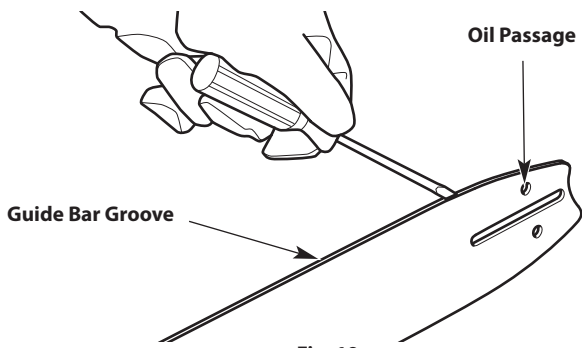
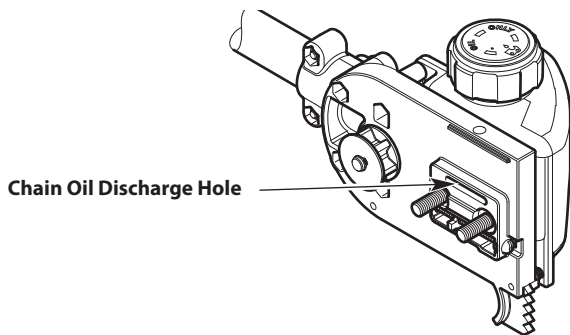

Fig. 19
Fig. 20
2. Clean the guide bar groove and oil passages whenever the saw chain is removed, when the unit has been used heavily or when the saw chain appears dirty. Use a screwdriver, putty knife, wire brush or similar instrument to remove debris from the guide bar groove (Fig. 19). Use a small, soft wire to remove any debris from the chain oil discharge hole (Fig. 20).